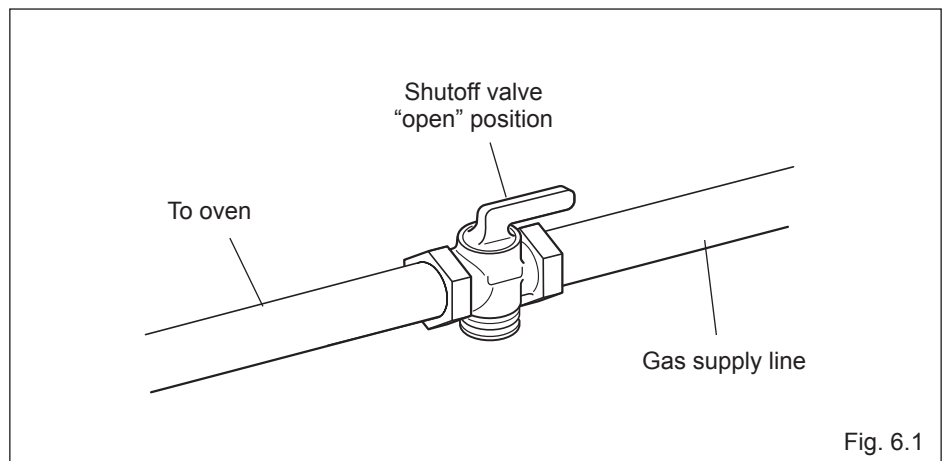

Fig. 6.1
1. Manual Shut-off Valve (fig. 6.1):